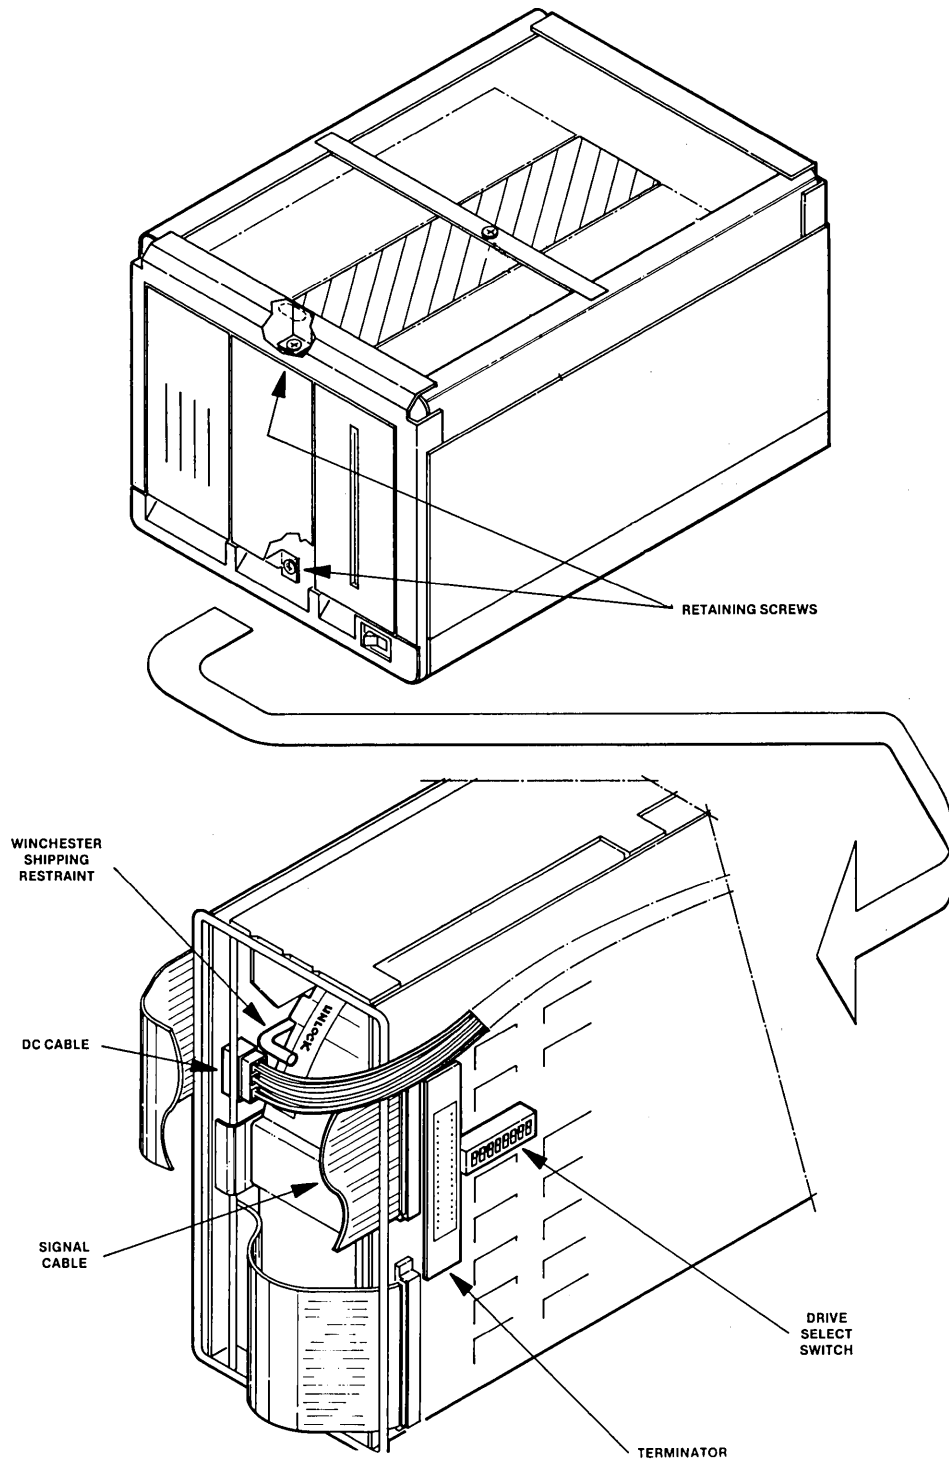

Figure 2-4. Winchester Shipping Restraints
3. Remove two screws securing the filler panel to the chassis and remove the filler panel. (Refer to Figure 2-4.)